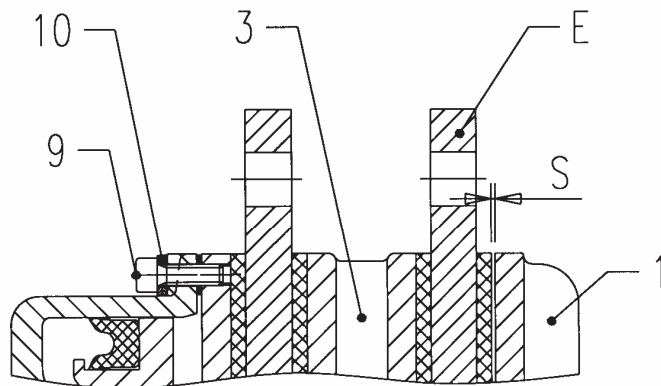

Fig.11
- Measure the **S gap** (Fig. 11) existing between the brake side cover (1) and the clutch disc (E), when the clutch disc is moved against the piston (3).